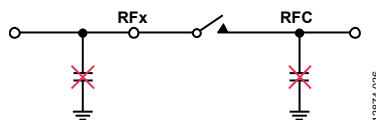

Figure 37. Avoid Large Capacitive Terminations Directly Connected to the Switch
- Avoid connecting large capacitive terminations directly to the switch. A shunt capacitor can store a charge that can potentially give rise to hot switching events when the switch opens or closes, affecting the lifetime of the switch. Figure 37 shows where to avoid large capacitive terminations.